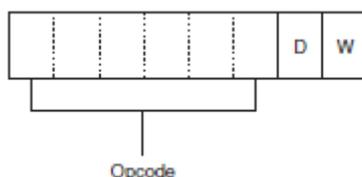

Figure 4-2: Byte-1 of many machine language instructions, showing the position of the D- and W-bits.
- Opcode is either 1 or 2 bytes long for most machine language instructions (Figure 4-2).